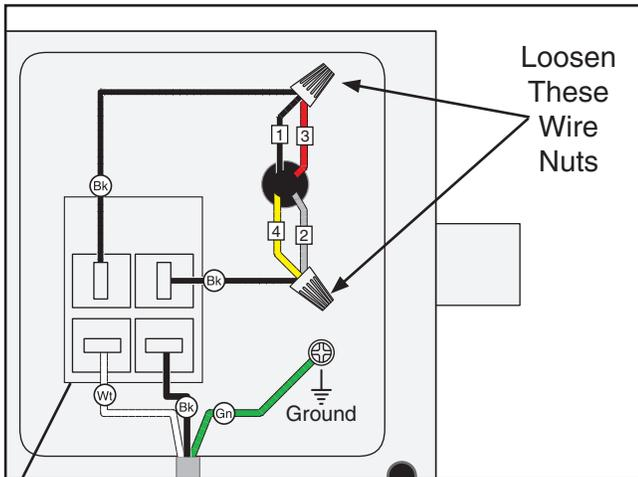

Figure 4. Location of wire nuts to be loosened on Model G0583Z when converting voltage.
2. Open the motor junction box, then loosen the wire nuts indicated in **Figure 4**.